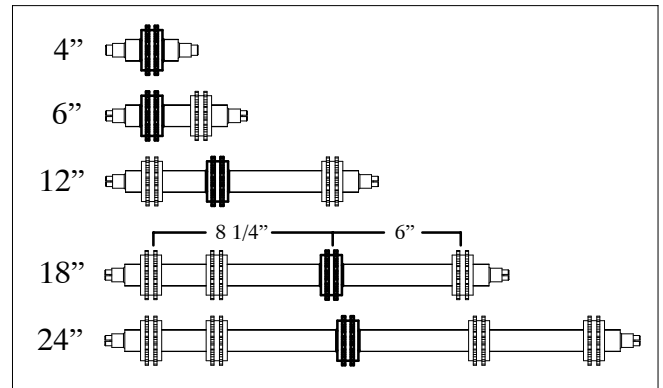

Figure 43
2. As required, install free moving sprockets as per Figure 43. Items in bold are the fixed drive sprockets.